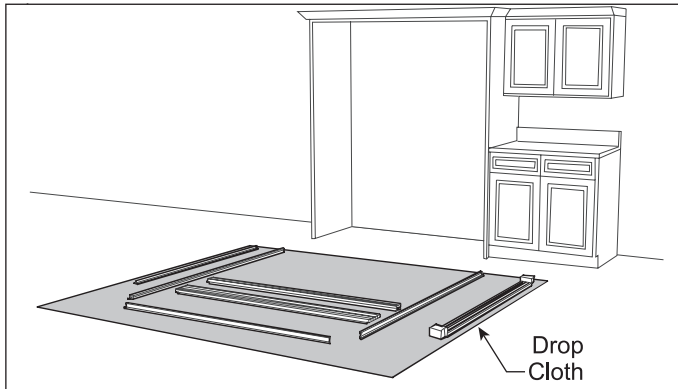

Figure 1
1. a. Lay the parts out on a cleared area face down. Be sure to place a drop cloth over the floor to prevent scratching trim kit and/or floor. (See Figure 1.)